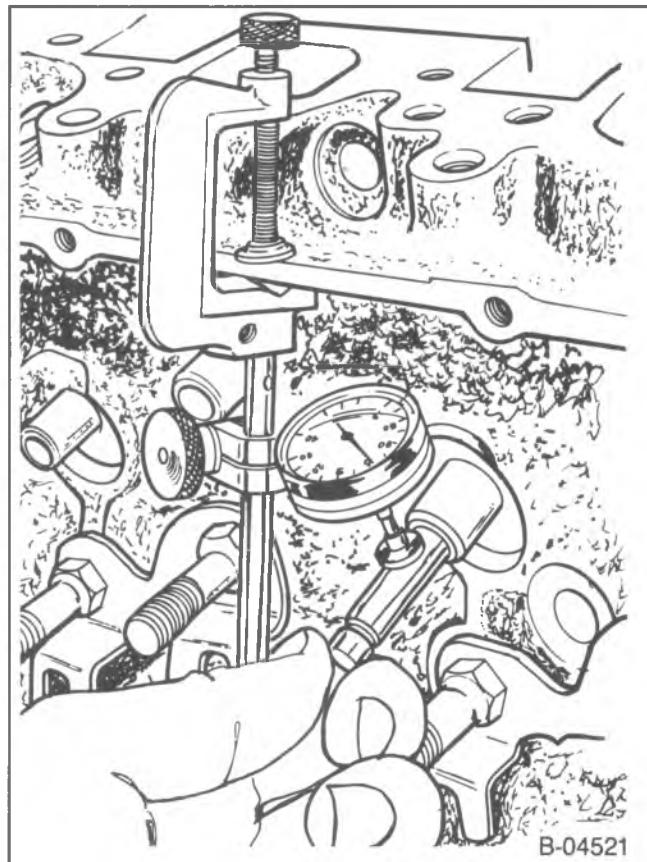

Figure 32—Measuring Stem to Bore Clearance
Measure (Figures 32, 33, and 34)
- Clamp a Dial Indicator J-8001 (or equivalent) on one side of the cylinder head rocker arm cover gasket rail (figure 32).